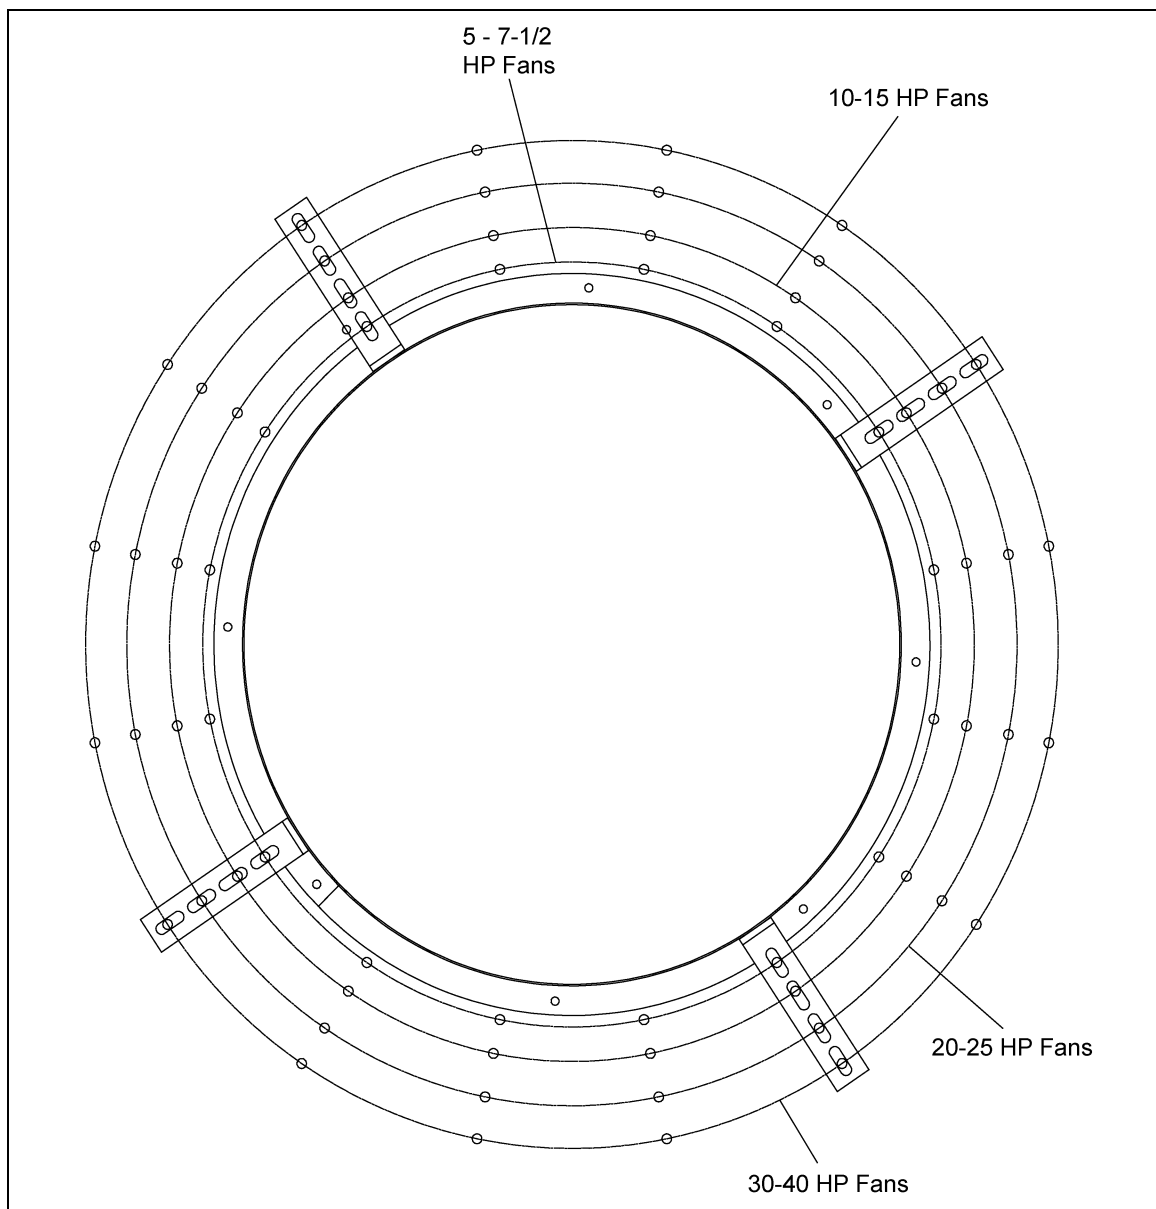

Figure 5A Heater Mounting Brackets Illustration
1. Install three (3) mounting brackets on fan as indicated by the arrows shown in Figure 5A. Install loosely.
2. Set heater in place and install four (4) mounting bracket.